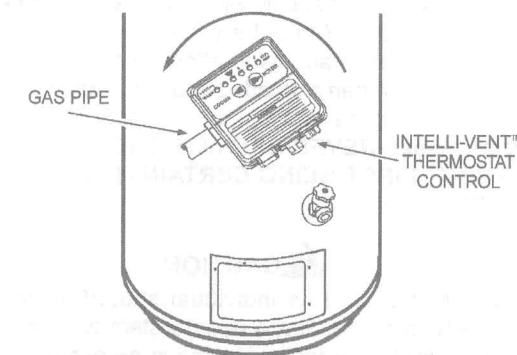

FIGURE 8.
10. Using your hand, grasp the straight pipe attached to the Intelli-vent™ Thermostat Control, (184768 Series) and rotate it counter-clockwise  until the valve is fully disconnected from the water heater, see Figure 8.